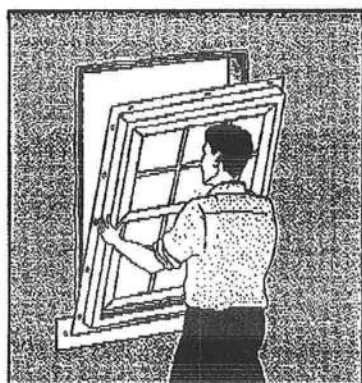

Figure 3
5. Place 1/4" shims at either end and in the middle of the sill plate. Place the window in the rough opening from the outside and center the unit in the opening, leaving a 1/4" gap between window unit and rough opening structure on all sides. Units wider than 30" should have additional shim support at the sill every 12". (See Figure 3)